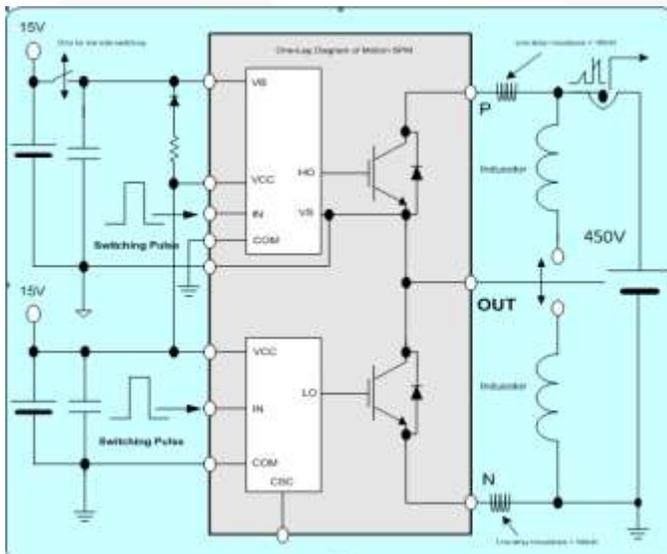
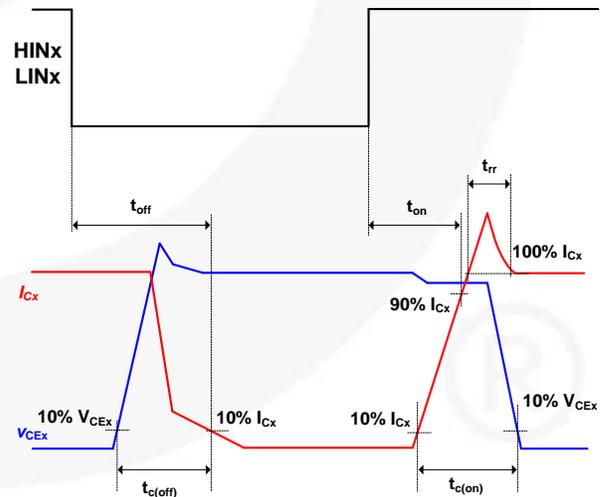

Figure 5. Switching Evaluation Circuit
Figure 6. Switching Time Definition
- t_{ON} and t_{OFF} include the propagation delay of the internal drive IC. t_{C(ON)} and t_{C(OFF)} are the switching times of the IGBT itself under the given gate driving condition. For detailed information, see Figure 5 and Figure 6.